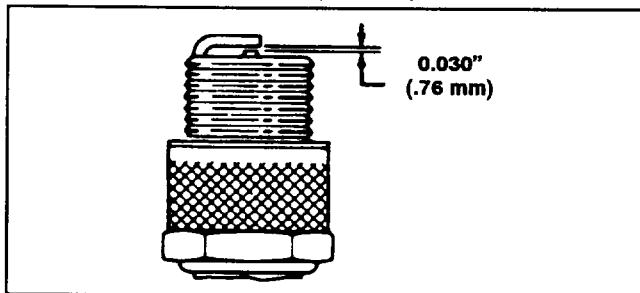

Figure 19
- Set air gap at 0.030" (0.76 mm) (Fig. 19). Install correctly gapped spark plug and gasket seal. Tighten plug firmly to 14 ft-lb (19 N-m).